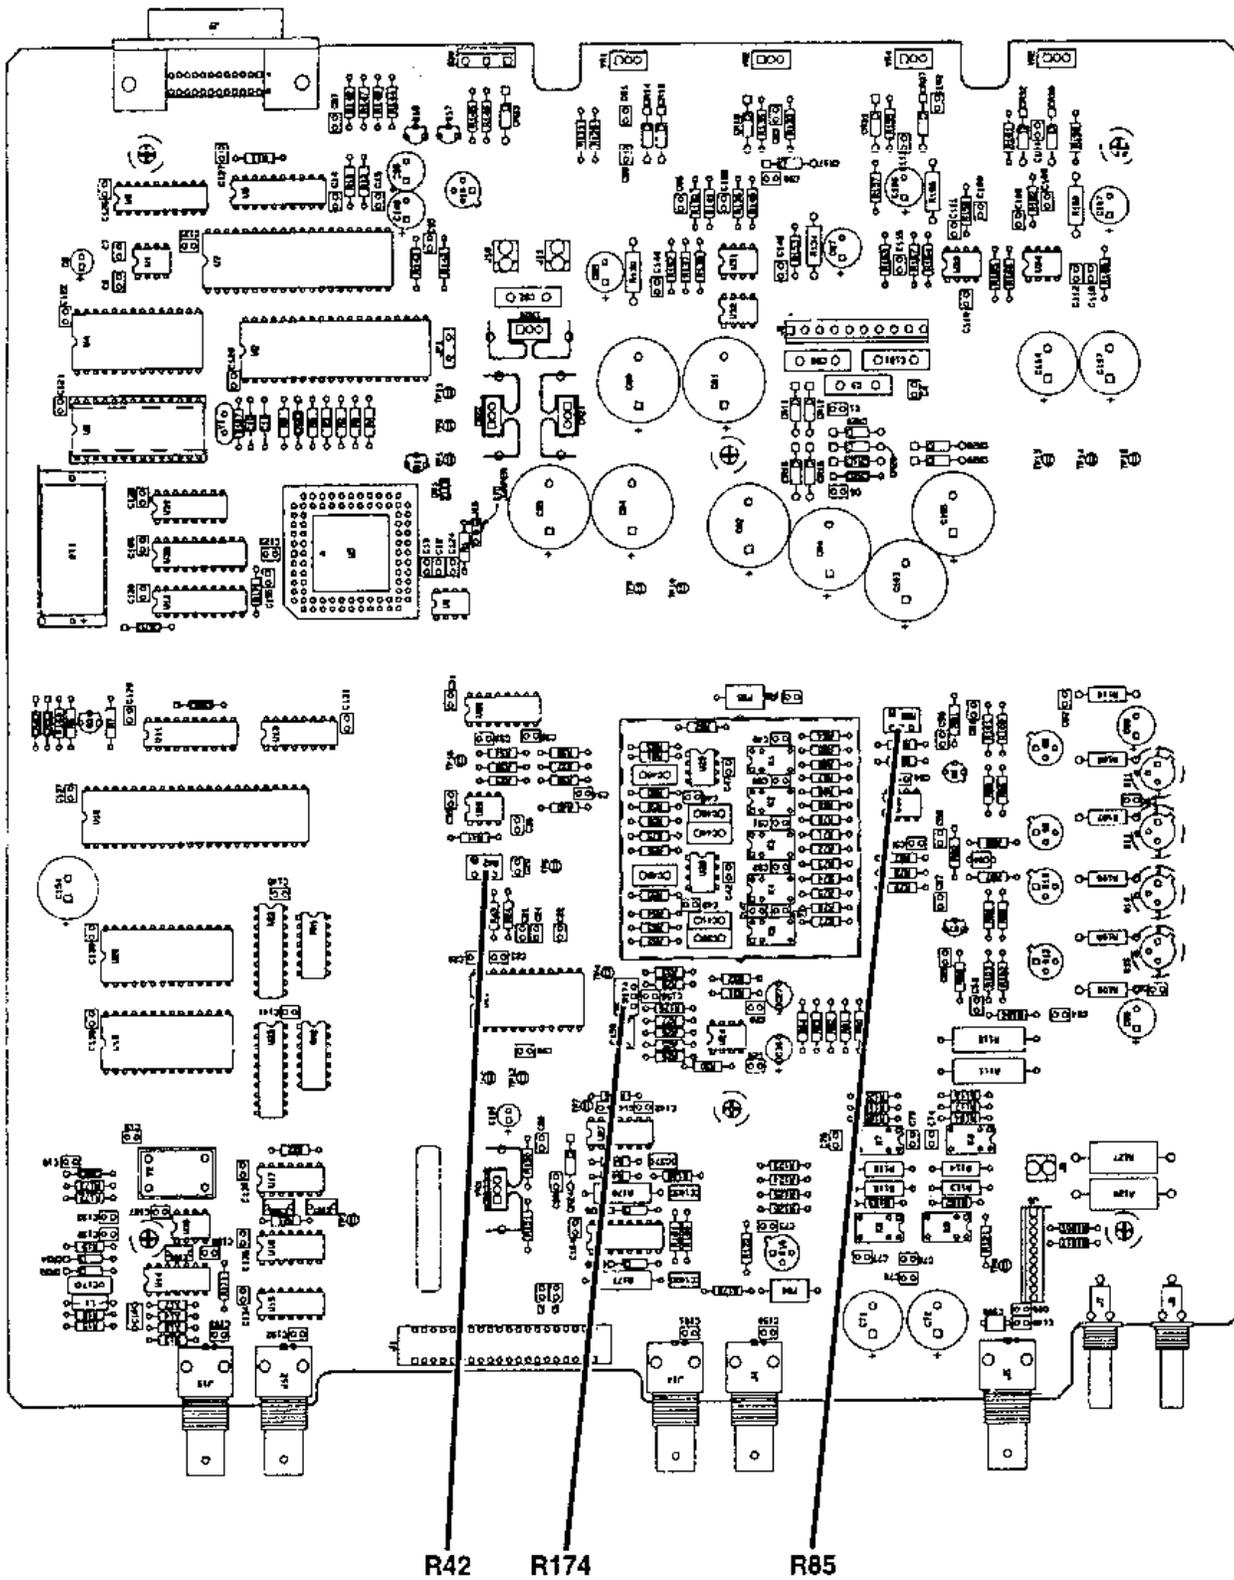

Figure 5-2. Calibration Location
1. Connect the test equipment as shown in figure 5-1. Refer to figure 5-2 for adjustment locations.